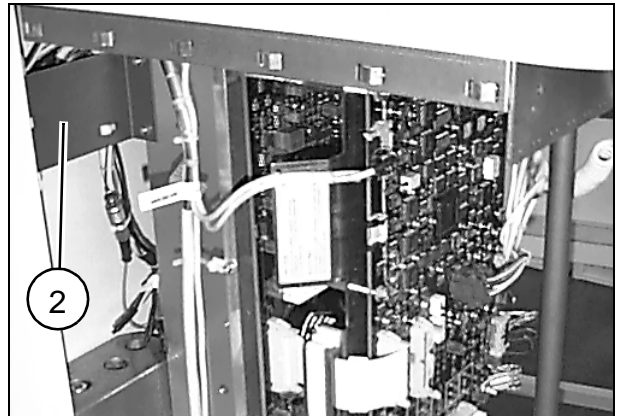

Fig. 17
- Reattach the bracket (2/Fig.17) to the lifting column and tighten the screws.